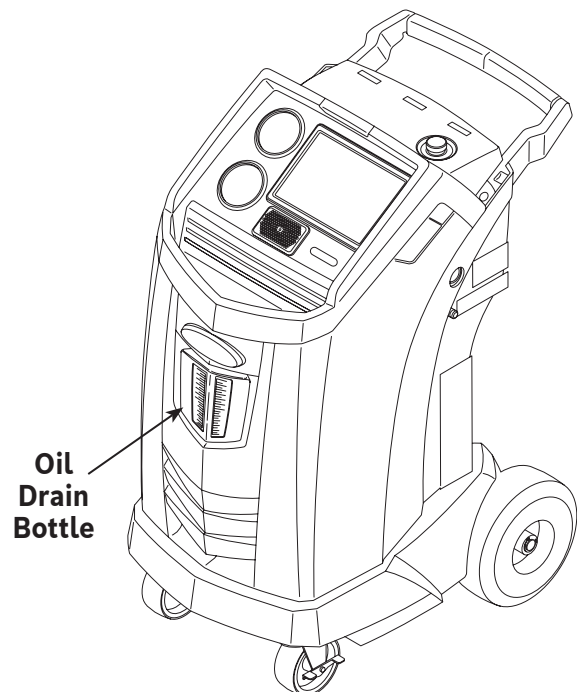

Figure 2
1. Empty the oil drain bottle before starting a recovery. Remove the oil drain bottle from the machine by pulling the bottle straight down—do not use a twisting or rocking motion. Reinstall the oil drain bottle. See Figure 2.